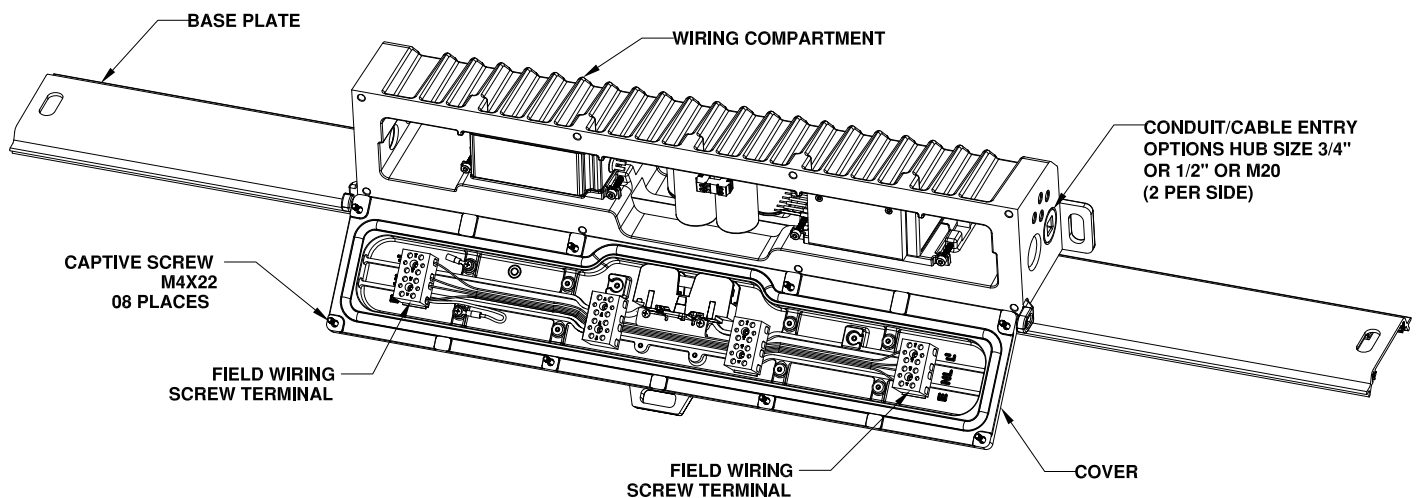

FIGURE 6: RIGMASTER EMERGENCY LUMINAIRE WITH SCREW TERMINAL OPTION
2. Open the luminaire wiring compartment by loosening the eight captive screws. Allow the cover to swing open, enabling access to the wiring compartment. see Figure 6.